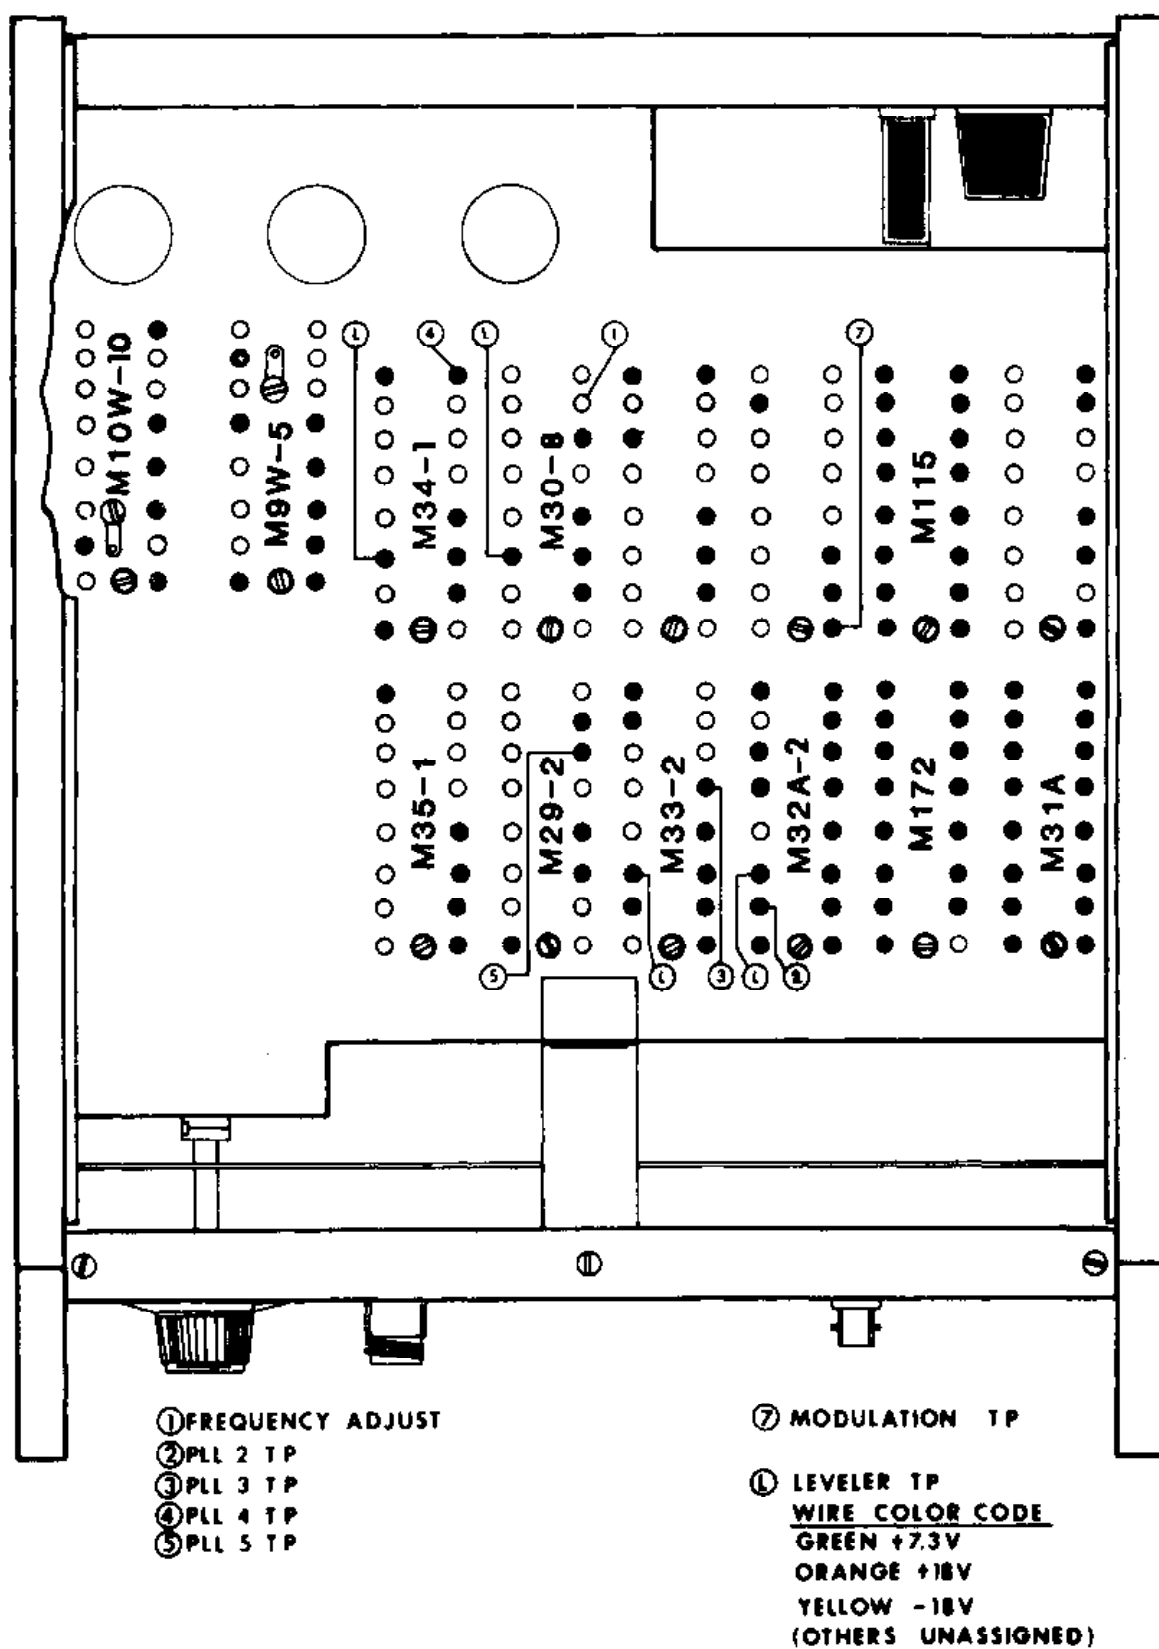

Figure 5-5. Bottom View
Adjust the M30-8 Frequency Adjust trimmer (Figure 5-5) for a minimum-frequency indication on the counter, then carefully turn the Frequency Adjust trimmer clockwise until the counter indicates the frequency selected by Lever/Indicator switches. Disconnect the counter from the RF OUT connector. A final frequency check will be covered in Section 5.3.12.
See Figure 5-5 for location of M32A-2 test points and Figure 5-6 for adjustment controls. Set the Lever/Indicator switches to 200.000 MHz and all other front-panel controls as in Section 6.3.4. Connect a digital voltmeter to M32A-2 pin 14. This voltage should be between +0.5 and +2.5 VDC. If it is not, carefully adjust both Crystal Reference trimmers (A and B) to produce a minimum reading on the voltmeter. Set the Lever/Indicator switches to 239.000 MHz and note that the DVM reading is still within the above limits.
PLL 3 consists of two modules, M33-2 and M9W-5. The test point is on module M33-2 (Figure 5-5), while the adjustment controls are on module M9W-5 (Figure 5-6). Set the Lever/Indicator switches to 250.000 MHz and all other front-panel controls as in Section 5.3.4. Connect the scope vertical input (DC, 1 V/division) to M33-2 pin 5. Adjust M9W-5 control (D) for a 0 V scope indication.
Adjustment controls for PLL 5 are located on Modulation Board C316-6 and module M29-2 (Figure 5-6), while the MOD TP is located on under side of the chassis (Figure 5-5). Connect a frequency counter to the front-panel RF OUT connector and a digital voltmeter to the MOD TP. Set the front-panel controls as follows:
Connect frequency counter to the instrument RF OUT connector, and set the front-panel controls as specified in Section 5.3.4. Note the frequency reading on the counter. If it does not agree with the selected frequency within accuracy specifications, very carefully adjust the M30-8 Frequency Adjust trimmer (see Figure 5-5) until the desired frequency is obtained.